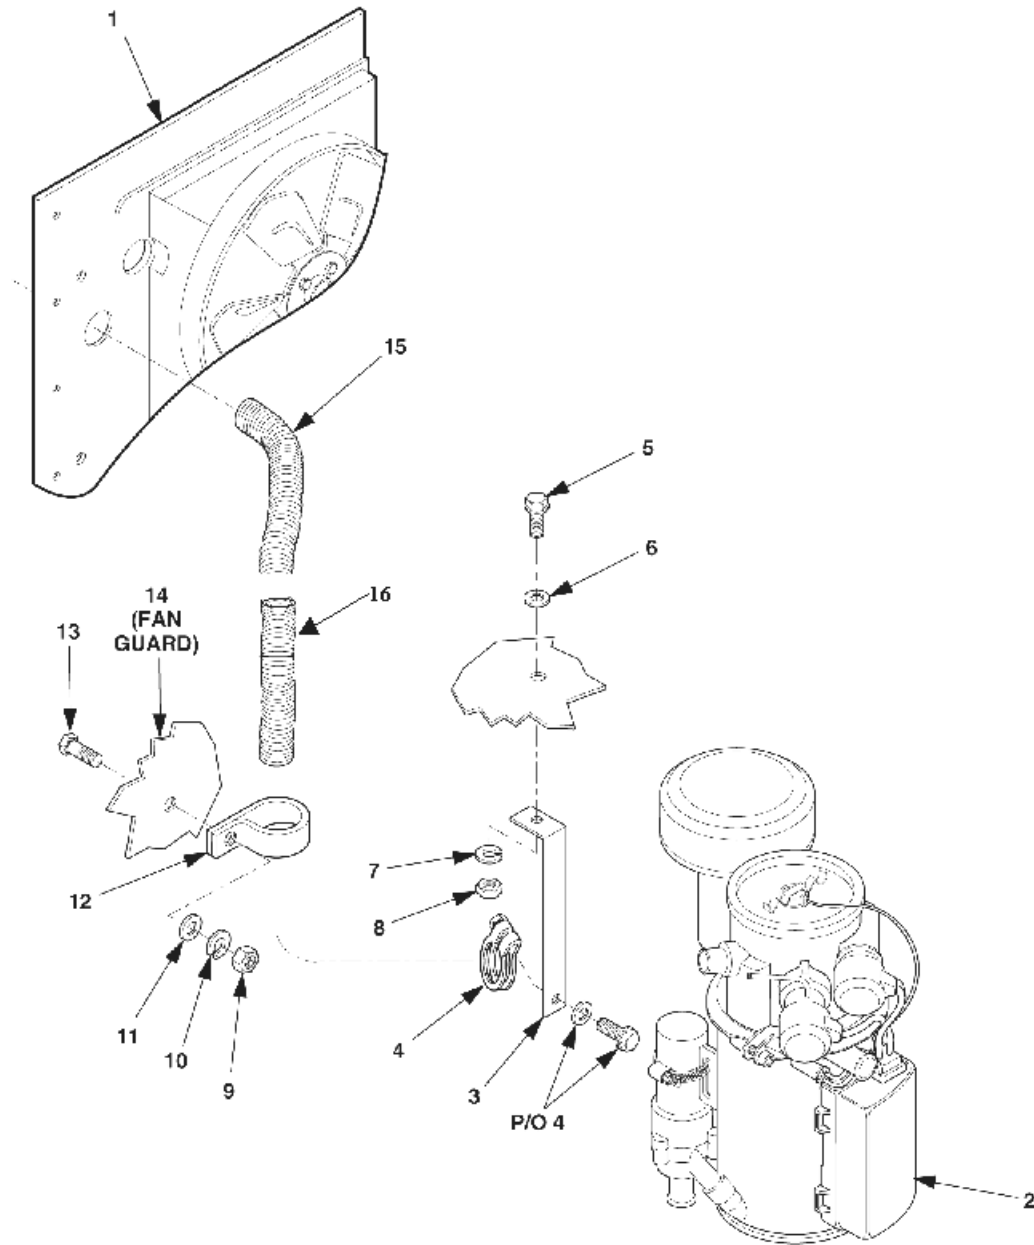

Figure 5-8. Exhaust Hose and Heater Brace.
34. Install heater brace (3), Figure 5-8, by using heater brace as a template for location and mark. Drill hole, 5/16" and mount to the inside top of the generator housing using screw (5), flat washer (6), lock washer (7), and nut (8).
35. Install thermal sleeving (16) over exhaust hose (15) and attach one end of exhaust hose (15), to heater (2), using clamp (4). Before attaching clamp, remove the screw from the clamp and insert clamp screw through heater brace (3) and then into the clamp (4).
36. Drill a 1-1/8" diameter hole in rear of front housing (1), Figure 5-8.
37. Install other end of exhaust hose (15), into hole provided in rear of front housing (1). Use sealant provided in kit, around hose and hole to prevent movement. Bend excess hose 90° to the right into front side of housing.
38. Drill a 7/32" diameter hole in the left side fan guard (14).
39. Secure exhaust hose (15) to fan guard (14), using clamp (12), screw (13), flat washer (11), lock washer (10), and nut (9).